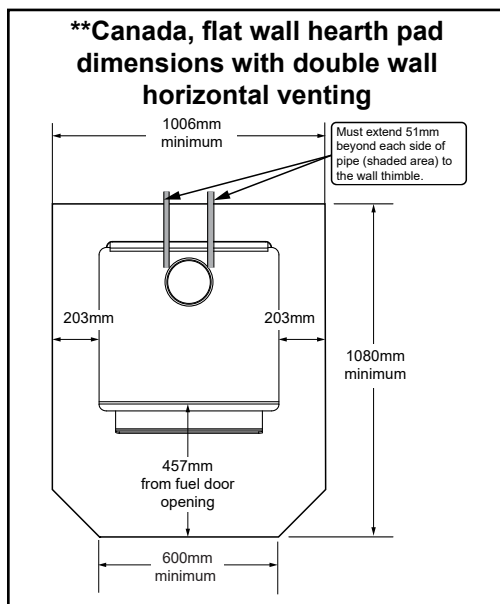

Figure 9.2 - **These dimensions will vary depending installation.
In Canada, similar floor protection must be provided 18 inches (457mm) in front and 8 inches (203mm) from the sides and rear of the appliance unless the hearth pad is placed against the wall (**Figure 9.2**). Then the clearance may be reduced using double wall pipe and the **Clearance to Combustibles** table listed in this manual.
***Exception:** Non-combustible floor protector must extend beneath the flue pipe when installed with horizontal venting and extend 2 inches (51mm) beyond each side; **See Figure 9.2**